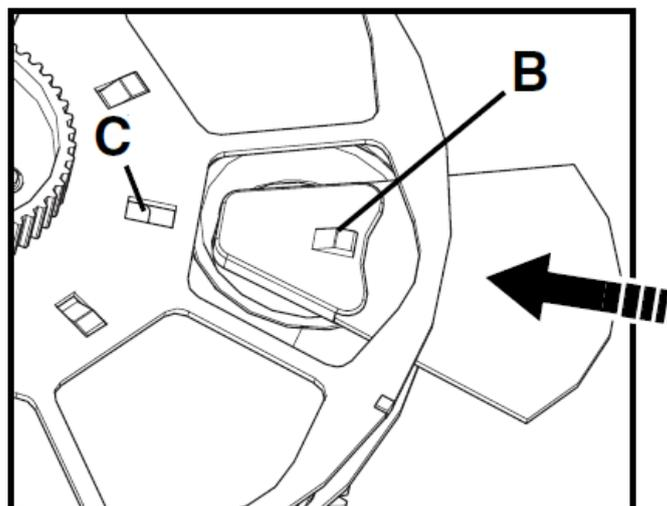

Figure 3: Installing the shutter flag
4. See Figure 3. To install the shutter flag, push it in between the color wheel and the gobo wheel and slide it under the retention spring in the color wheel until it snaps into place on the color wheel and the raised lug **B** in the filter holder engages in its cutout **C**.